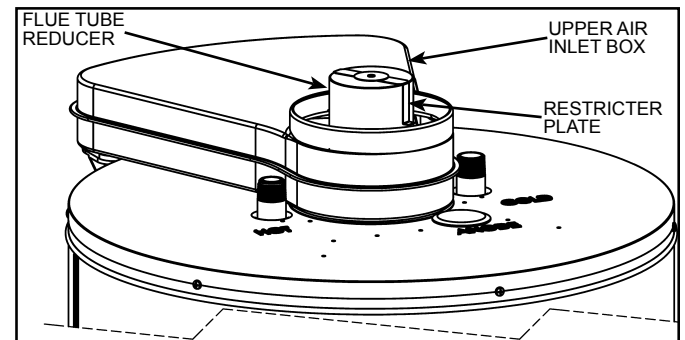
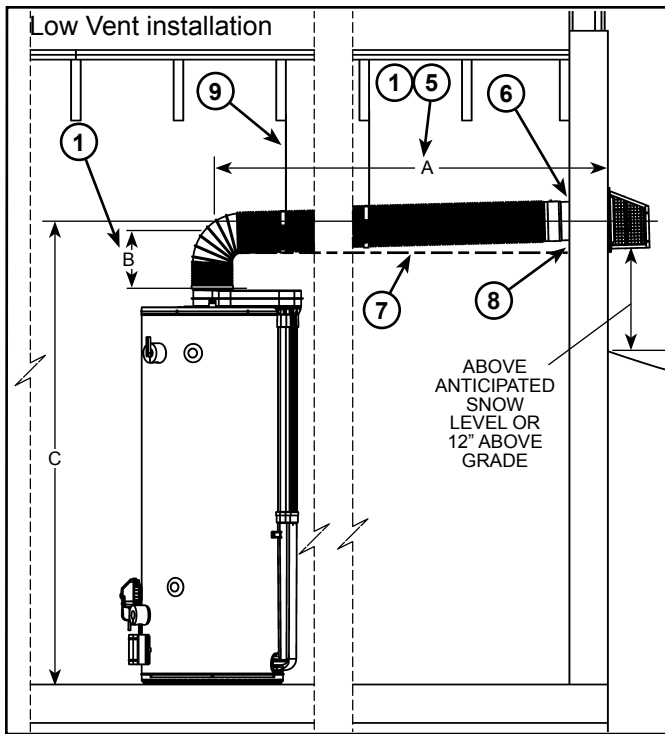
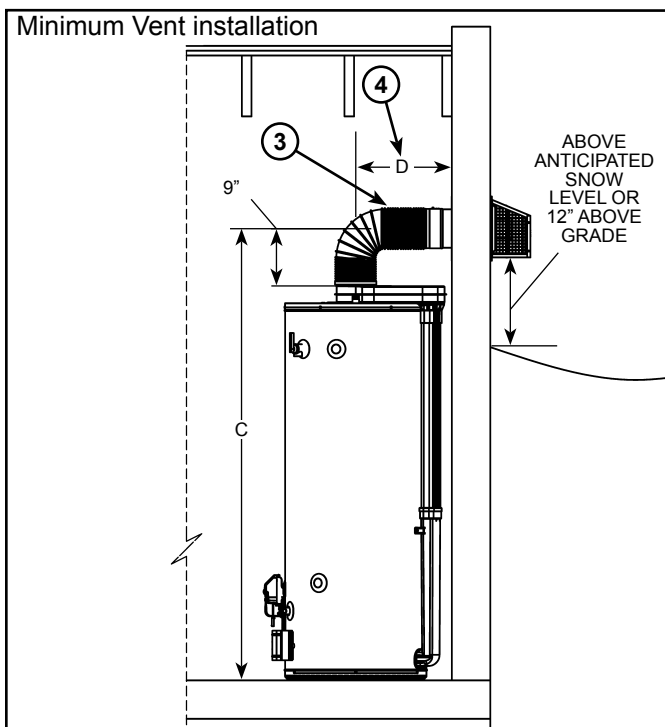
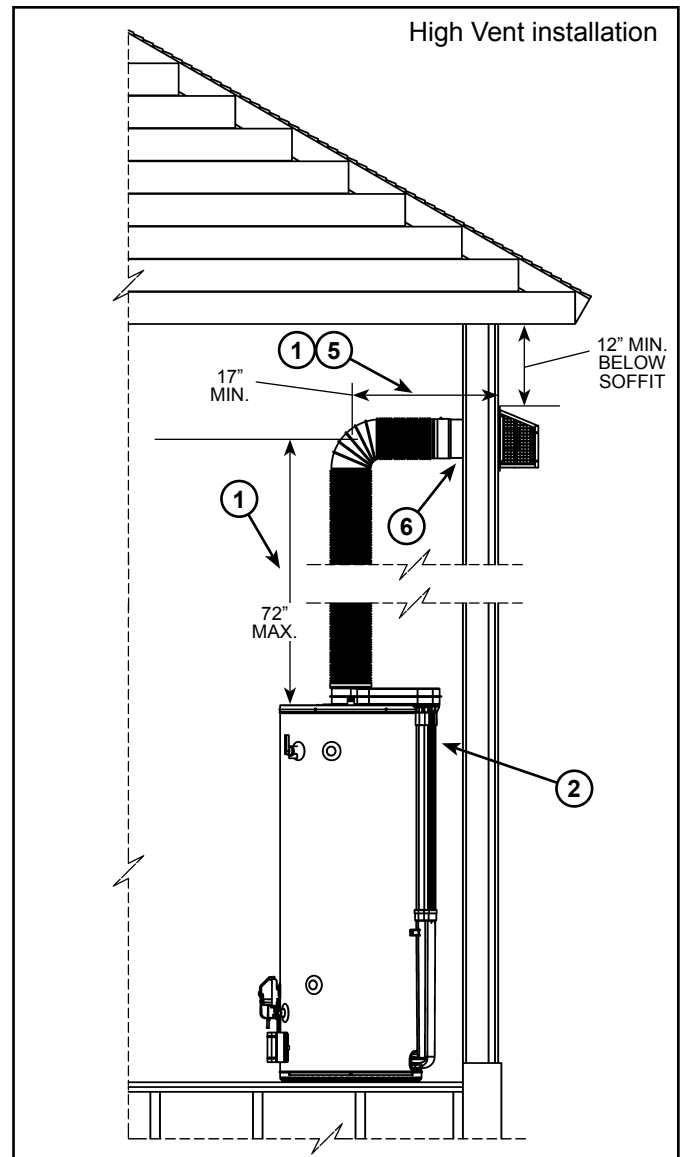

Figure 22
Figure 28
Figure 29
Figure 30
* If the horizontal length of the venting is **less than 30"** the restrictor plate must be installed (see Figure 22, Figure 28 thru Figure 30).
The vent restricter plate (see Figure 22) is required for short horizontal runs on low vent installations (see Figure 29) and high vent installations (see Figure 30).
For short horizontal vent runs (see Figure 29) place the restricter plate over the flue tube reducer before connecting the inner corrugated tube to the flue tube reducer. DO NOT use the restricter plate if the horizontal run is greater than 30".
For high vertical runs use the restricter plate only when the vertical run of the venting above the heater is greater than 48" (see Figure 30).
NOTES: (applies to Figure 28 thru Figure 30)